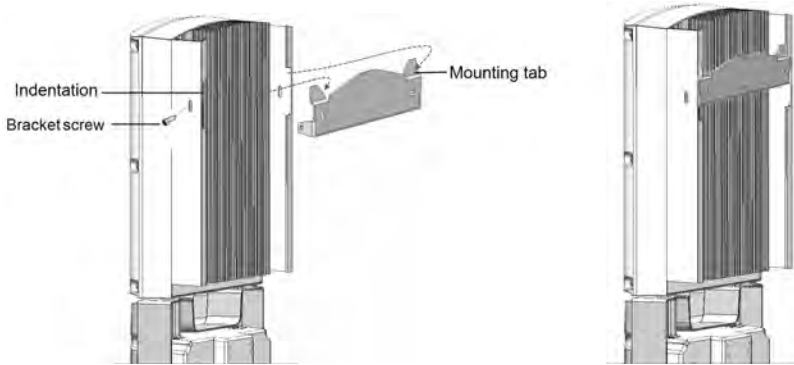

Figure 10: Hanging the inverter on the bracket
- Ensure that the flat edge of the bracket is at the bottom, as in *Figure 10*.
5. Hang the inverter on the bracket (see *Figure 10*): Lift the inverter from the sides, or hold it at the top and bottom of the inverter to lift the unit into place. Do not lift holding the StorEdge Connection Unit as it may be damaged.
- Insert the two supplied screws through the outer heat sink fin on both sides of the inverter and into the bracket (see *Figure 10*). Tighten the screws with a torque of $4.0 \text{ N}\cdot\text{m}$ / $2.9 \text{ lb}\cdot\text{ft}$.